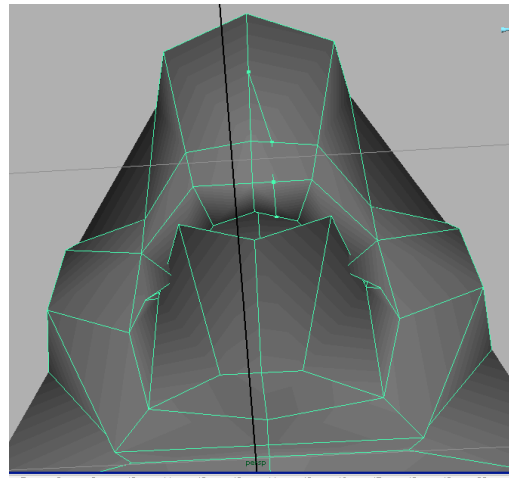

Figure 27: The split polygon tool is used to add an edge to the interior polygons.
9. Select the embryo model and choose Edit Mesh>Split Polygon Tool. Select midway down the front edge at the center of the snout to start the edge split. Click on the next perpendicular edge below this to create a triangle. Continue to add points by clicking on the edges. You'll need to zoom inside the head and reverse the camera angle so that you are looking at the back of the faces that form the rear of the mouth. Click on the edges to continue the split. Finish the split by clicking on the outside corner of the face the forms the back of the mouth. Use figure 27 and 28 as a guide. If you make a mistake while the split polygon tool is active, you can hit the backspace key to eliminate the most recent point added by the tool. Hit enter to complete the tool. Undo will only work when the tool is complete and then it will